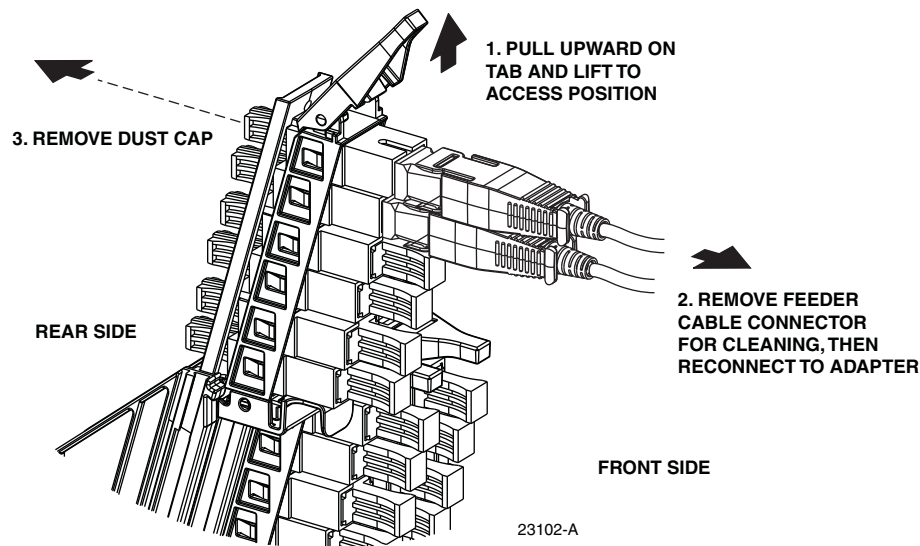

Figure 68. Typical Adapter Pack Raised to Access Position
2. Pull upward on the small tab on top of the adapter pack and lift the adapter pack to the position shown in Figure 68.